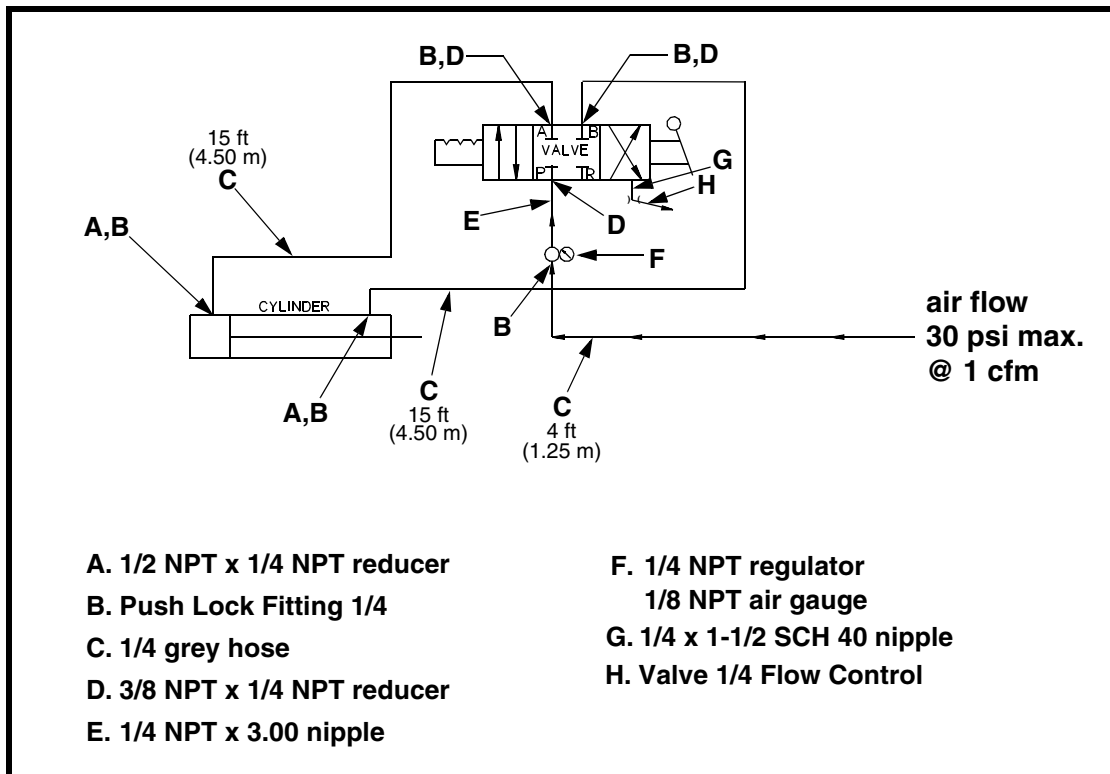

Figure 8. Pneumatic Aligner Schematic
6. Make air line connections to valve assembly as shown in the schematic in Figure 8.